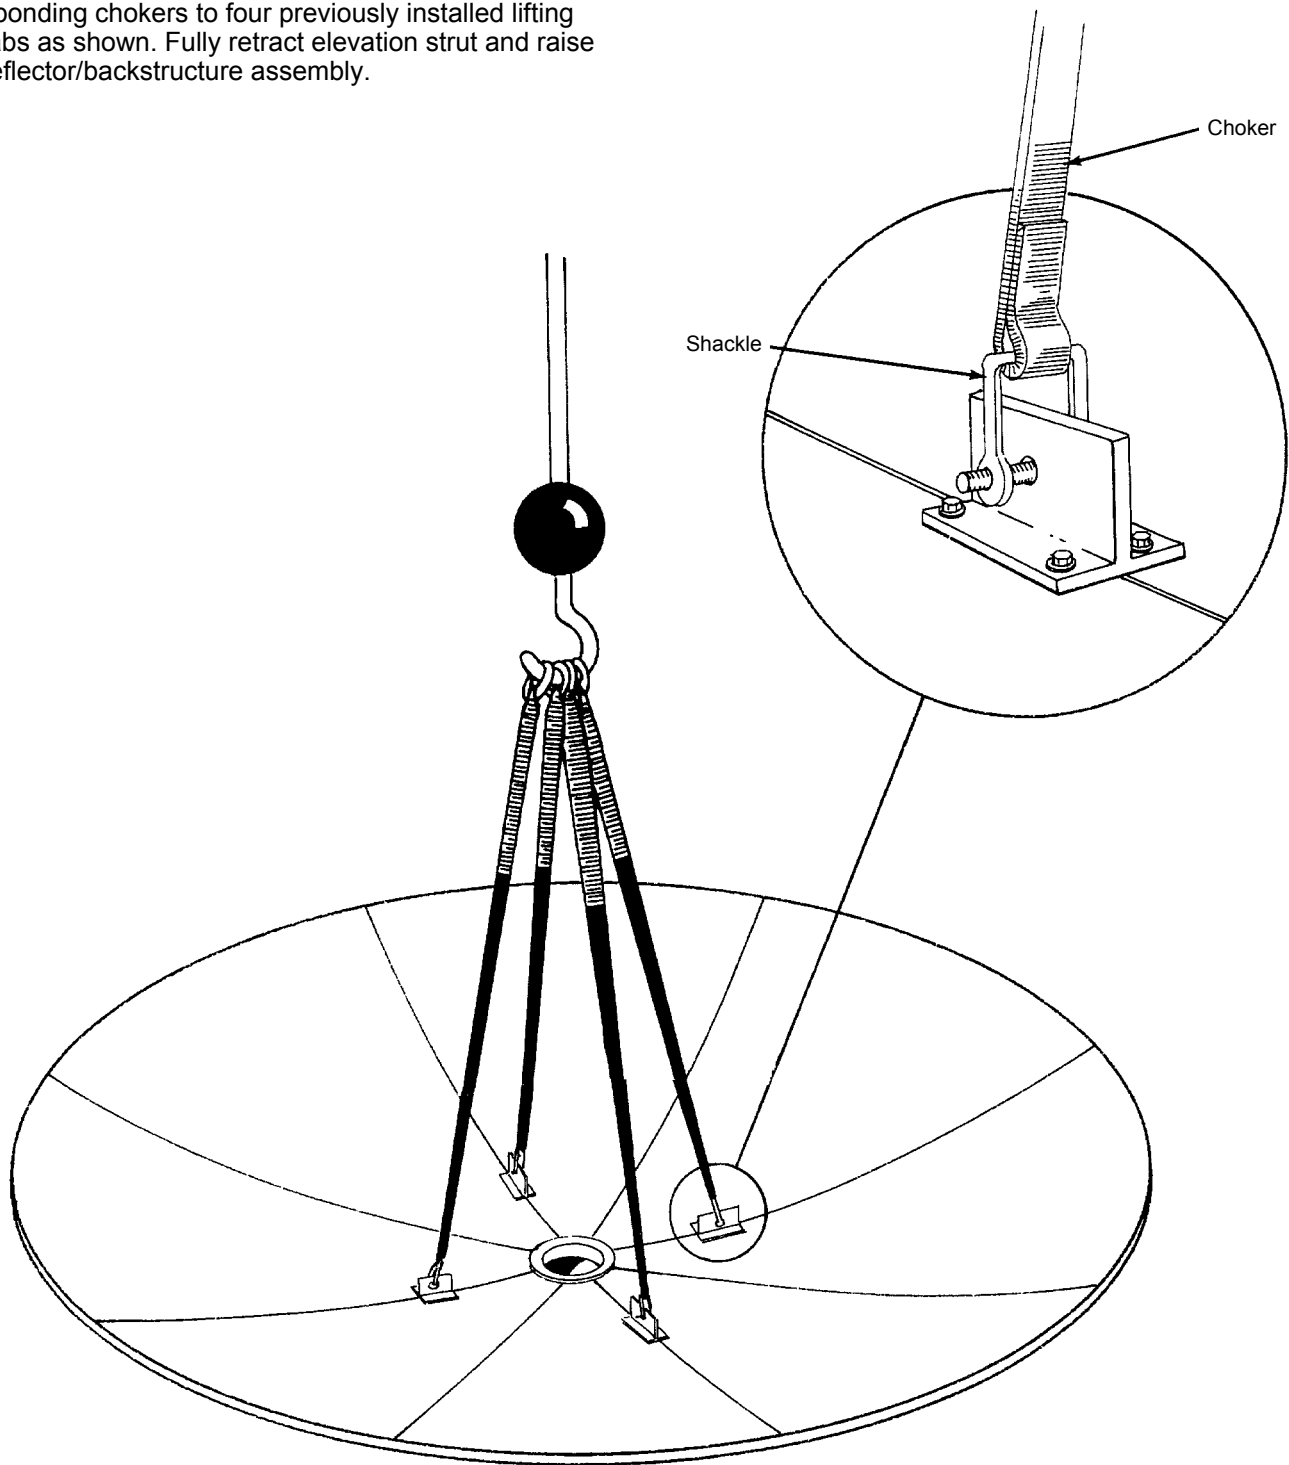

Figure 5-1
5.1 Refer to Figure 5-1. Attach shackles with corresponding chokers to four previously installed lifting tabs as shown. Fully retract elevation strut and raise reflector/backstructure assembly.